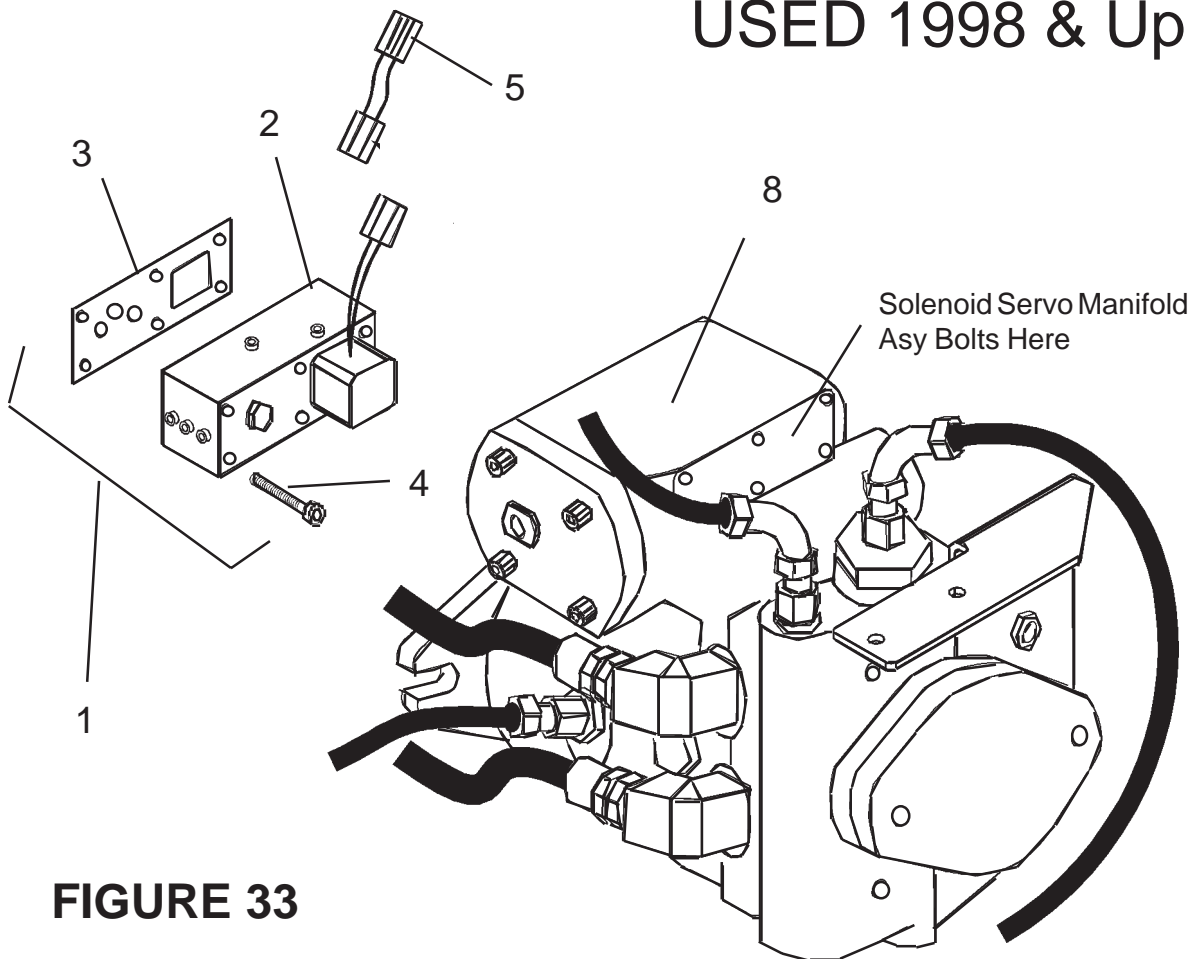

**FIGURE 32**
(See Figure 32)
3. **Valve Spool Spring**, Install Spring Retainer (item 5), Spring (item 6) and second Spring Retainer (item 5) onto Valve Spool (item 7). Compress Spring by pushing on outer Spring Retainer and install E-Ring (item 4) onto Valve Spool.
4. **Valve Spool**, Install Valve Spool assembled into Control Housing (item 1) making sure that the metering notches (See Figure 32) are facing outward and can be seen through the Metering Ports, Check the notches at this time, if the notches cannot be seen it will not work.
5. **Feedback Link and Bell Crank**, Bell Crank (item 12) should have Head Pin (item 17) already installed. Position Bell Crank in Housing, Slide Feedback Link (item 9) into position between Clevis on Valve Spool aligning holes, install Retaining Dowel Pin (item 10) and E-Ring (item 11).
6. **Input Shaft**, Install New O-Ring (item 15) onto Input Shaft (item 14), Hold Bell Crank in position with Feedback Link Slot and align Splined Hole of Bell Crank with Input Shaft Cavity. Install Input Shaft into Control Housing and Bell Crank. Apply Locktite # 242 or equivalent to Set Screw (item 13) and install it to retain Input Shaft. Tighten Set Screw till it bottoms out against Input Shaft and then back it out 1/4 turn.
7. **Wiper Seal**, Install Wiper Seal (item 16) on Input Shaft and seat into Control Housing.
8. **Valve Spool Plug**, Install New O-Ring (item 3) onto Valve Spool Plug (item 2) and install Plug, Tighten Plug till there is no play in Valve Spool with Input Shaft held stationary. Lock in place with Set Screw (item 8), Torque Set Screw to 17 to 25 in. lbs. (2 to 3 nm)
**NOTE: SOLENOID SERVO CONTROL MANIFOLD ASSEMBLY, (Used 1998 & Up See Figure 39),** The Manual Servo Control Assembly Shown in Figure 32 was used through 1997, at which time it was replaced by a Solenoid Servo Manifold, There are not really any repairs to be done to this later version, other than replacing the complete manifold assembly or the Solenoid. Also many of the earlier units were upgraded to this later Manifold by using up-grade Kit # 02970206 See Pump Conversion Kit Insert Sheet # 02970224 (See Figure 33 on next pages).